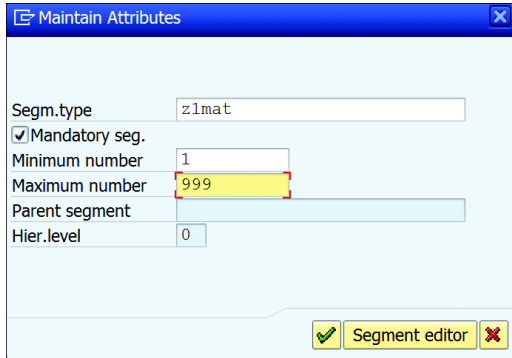

Figure 19.40 Maintain Attributes
- In the MAINTAIN ATTRIBUTES dialog box that appears (see Figure 19.40), enter the name of the segment type that you created previously. You can also set the segment as mandatory. If the MANDATORY SEG. checkbox is selected, then the IDoc will be checked at runtime to validate if all the mandatory segments are filled.